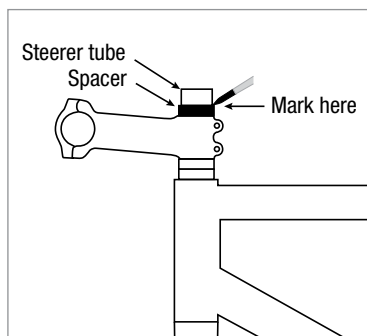

Figure 6
8. Add a 10mm spacer above the stem clamp and use a fine-tip felt marker to mark the steerer tube along the top edge of the spacer if there is extra steerer tube (Fig. 6).